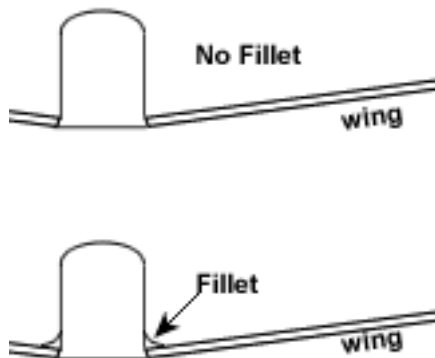

Figure 49
3. Installing filets. A filet is a smooth fairing that allows two boundary layers to merge gradually. Figure 49 shows a typical filet.